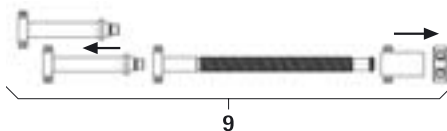

Fig. 4
- Desmontar o fuso distractor 9, ver Fig. 4.